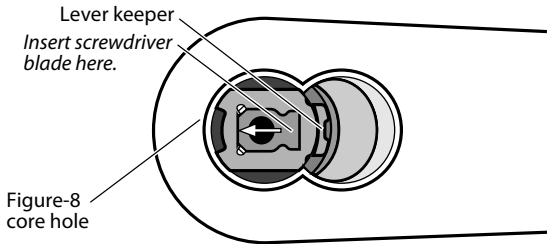

Figure 7 Removing the outside lever (9K shown)
- 3 Press the screwdriver blade in the direction of the arrow in Figure 7.